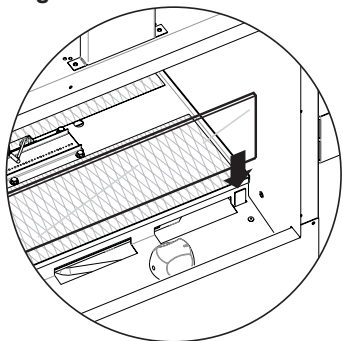

Figure 24
2. Install the glass wind panel (two used on see-through fireplaces). **See Figure 24.**